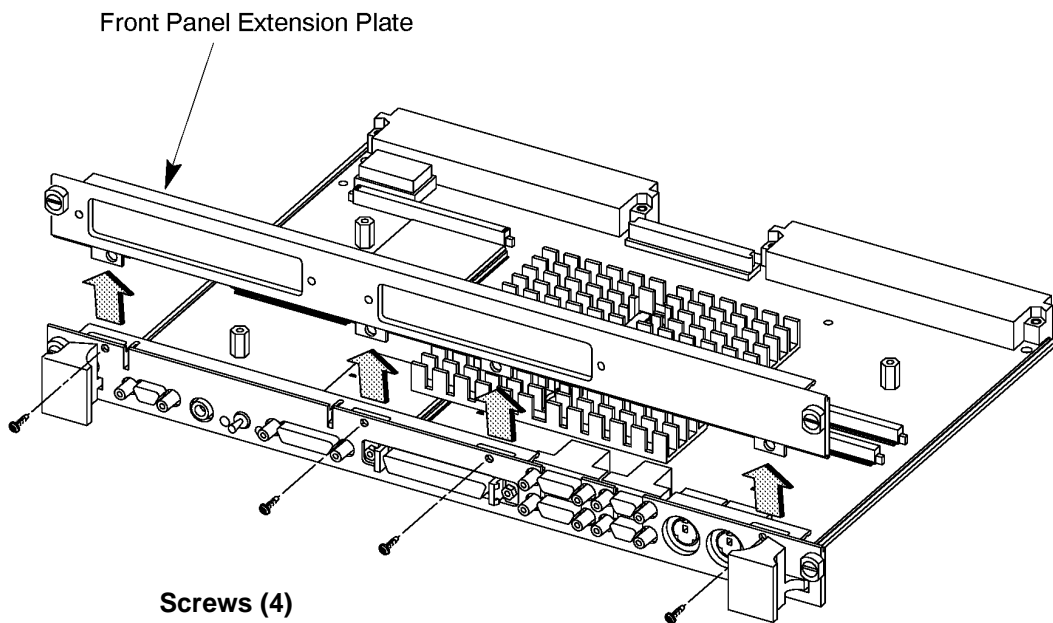

Figure 3
- 6 Remove GSC expansion bezel from the board computer, if installed, as shown in Figure 3.